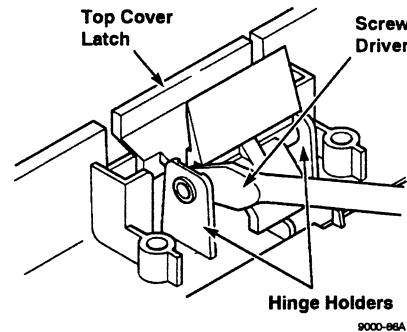

Figure 5-13. Top Cover Latch
2. Use a screwdriver to gently spread apart the hinge holders securing the top cover latch. Figure 5-13.